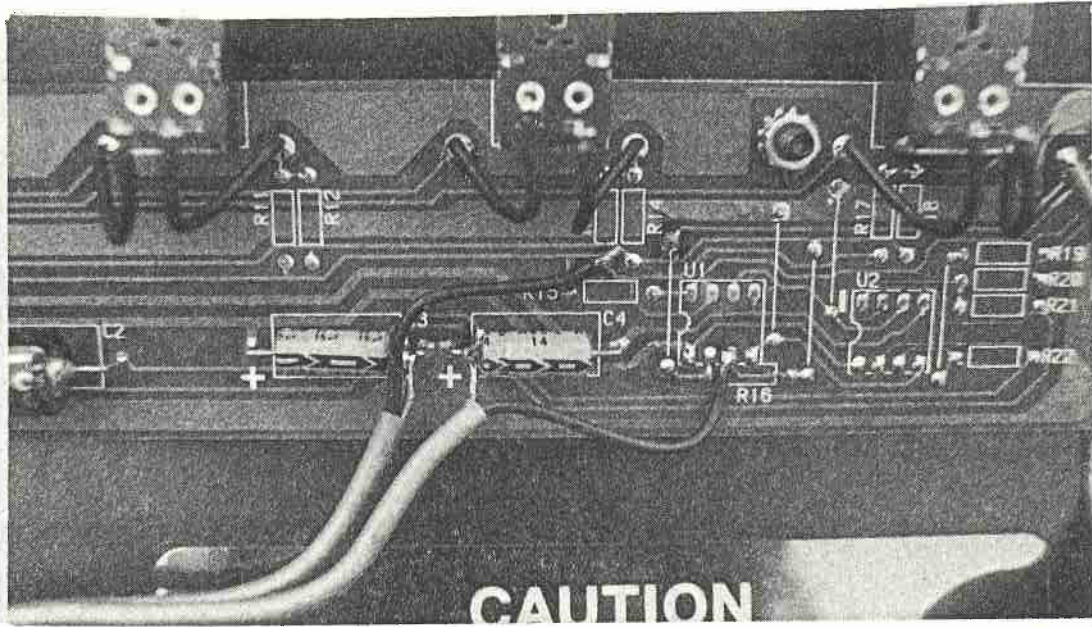

figure12
- Solder the two copper colored braided shields to AGND located on the positive + side of C4 and the negative side of C3 (see the photo in **figure 12**).
- Solder the signal wire coming from pin 1 to the lower end of R13 on the DX Switch board, as shown in **figure 12**.
- Solder the signal wire coming from pin 4 to pin 6 of U1 on the DX Switch board, as shown in **figure 12**.